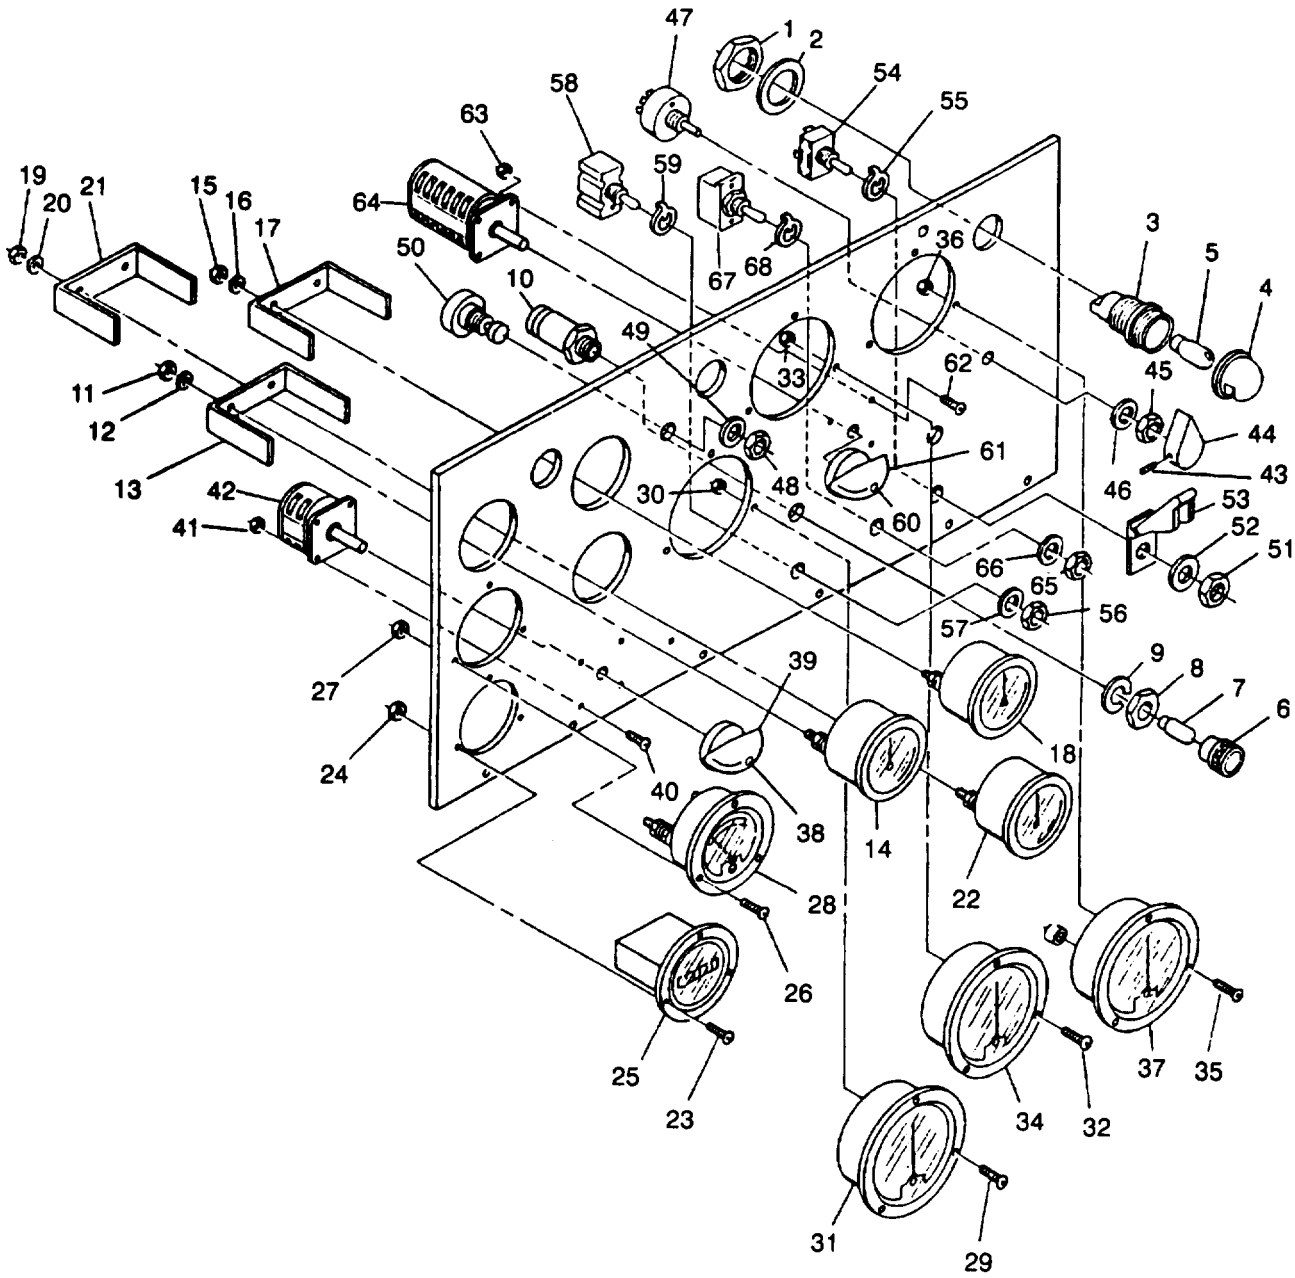

Figure 2-14. Control Panel Indicators and Switches
- d. Tag and disconnect panel light (3, Figure 2-14) electrical leads.
- e. Remove nut (1) and washer (2).
- f. Remove panel light (3) from control panel.
- a. Remove panel light directional cap (4, Figure 2-14) from panel light housing (3).
- b. Remove panel light bulb (5).
- a. Install panel light bulb (5, Figure 2-14) into panel light housing (3).
- b. Install panel light directional cap (4).
- a. Insert panel light (3, Figure 2-14) into control panel.
- b. Install washer (2) and nut (1).
- b. Press in lamp holder (6, Figure 2-14) and check that lamp is lit.
- c. If lamp (7) fails to light, set multimeter for DC volts and check for battery voltage at receptacle (10) terminals 1 and 3.
- d. Tag and disconnect electrical leads to light receptacle (10, Figure 2-14).
- e. Remove lamp holder (6), nut (8), lockwasher (9), and receptacle (10) from control panel.
- f. If necessary, remove lamp (7) from lamp holder (6).
- a. Install indicator light receptacle (10, Figure 2-14) in control panel with lockwasher (9) and nut (8).
- b. If removed, install lamp (7) in lamp holder (6).
- c. Install lamp holder (6) on receptacle (10).
- d. Tag and disconnect fuel level indicator (14, Figure 2-14) electrical leads.
- e. Remove nuts (11, Figure 2-14), washers (12), and clamp (13).
- f. Remove FUEL LEVEL indicator (14) from control panel.
- a. Insert FUEL LEVEL indicator (14, Figure 2-14) into control panel.
- b. Install clamp (13), washers (12), and nuts (11).
- d. Tag and disconnect COOLANT TEMP. indicator (18, Figure 2-14) electrical leads.
- e. Remove nuts (15), washers (16), and clamp (17).
- f. Remove COOLANT TEMP. indicator (18) from control panel.
- a. Install COOLANT TEMP. indicator (18, Figure 2-14) in control panel.
- b. Install washers (16), nuts (15), and clamp (17).